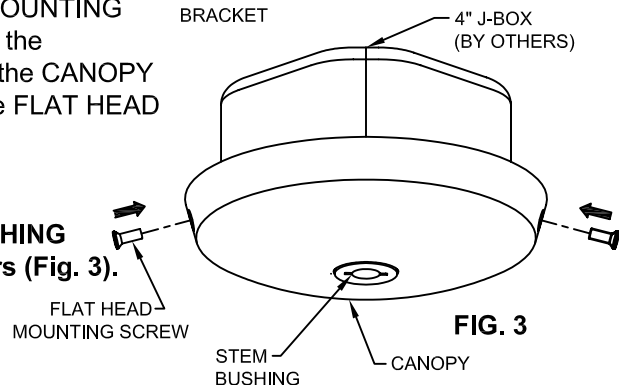

FIG. 3
4. Position the Surface Mount Power Jack over the J-BOX and MOUNTING BRACKET. Push all wires inside the J-BOX, taking care not to pinch any wires. The splices must be positioned opposite the TRANSFORMER and to the side of the MOUNTING BRACKET. The SUPPLY WIRES must not pass below the MOUNTING BRACKET. Align the holes on the side of the CANOPY with the holes in the MOUNTING BRACKET. Install the FLAT HEAD MOUNTING SCREWS to secure the CANOPY to the MOUNTING BRACKET (Fig. 3).
NOTE: Using a coin, unscrew & remove STEM BUSHING when used with fixtures that have screw-in adapters (Fig. 3).